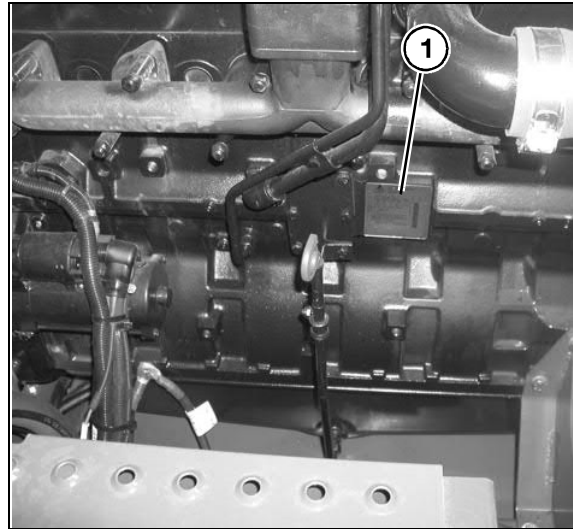

Fig. 4
**Engine identification - Fig. 4**